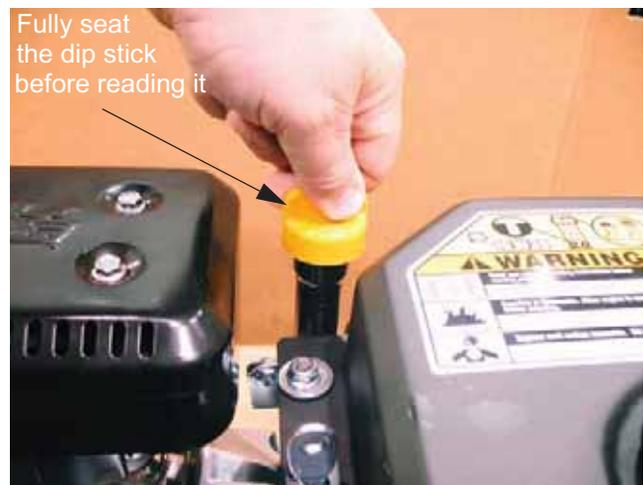

Figure 5.3
3. Re-insert the dipstick **and turn it until it is fully seated** to get the oil level reading. See Figure 5.3.